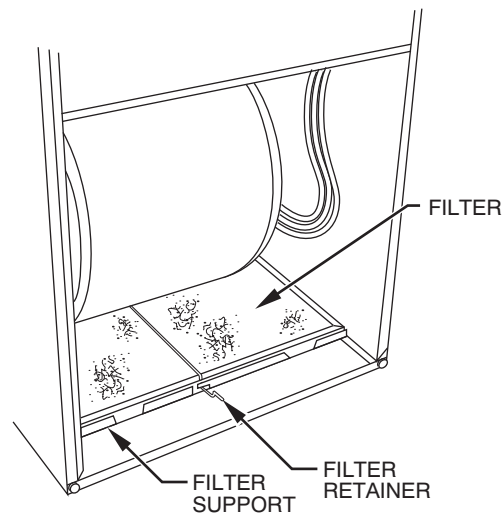

Fig. 3 - Bottom Filter Arrangement
3. Release filter retainer wire. (See Fig. 3 or 4.)
- NOTE:** Filters shown in Fig. 3 and 4 can be in furnace blower compartment or in filter cabinet, but not in both.